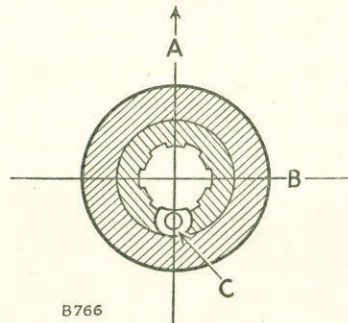

Fig. F-19—
10. Insert the cone bearing after smearing with oil, with the vertical oil hole in the bearing towards the rear of the vehicle (Fig. F-19).